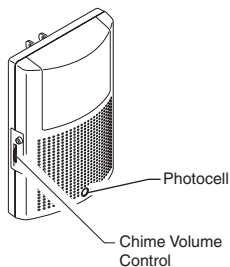
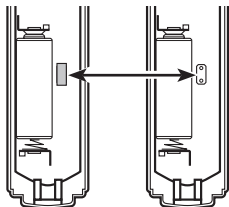

**Figure 1**
**Figure 3**
1. **Remove orange battery tab from push button.** Remove back of case by pushing in tab on bottom with a small screwdriver (see Figure 1). Remove orange battery tab.
- **Screw Mounting:** To mount with screws, remove back of case by pushing in tab on bottom with a small screwdriver (see Figure 1). *Note:* Remove material in screw holes (if needed) before mounting with screws. Attach back of case to door jamb or wall (see Figure 3). Snap front of push button on.